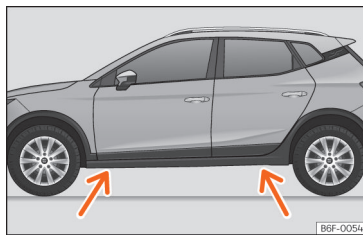

Fig. 197 Jack position points.
- Look on the strut for the mark of the jack support point (sunken area) closest to the wheel to be changed >>> Fig. 197.